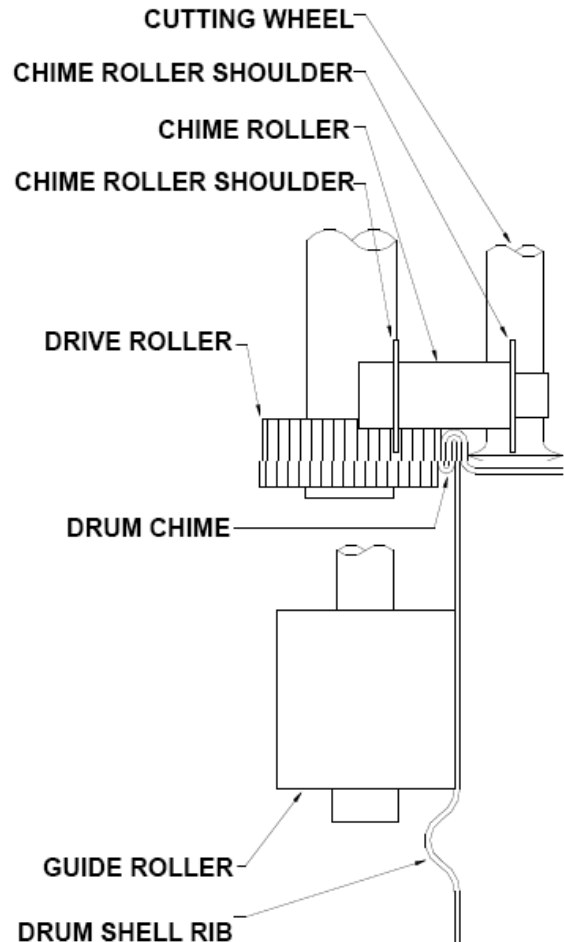

Figure 1: WIZ-Kid Set-up
1. Place the unit on the drum by resting the chime rollers on the drum chime with the cutting wheel to the inside of the drum. The chime should be between the chime roller shoulders. The guide rollers are adjustable and should support the unit on the drum shell just above the shell rib (see figure 1).